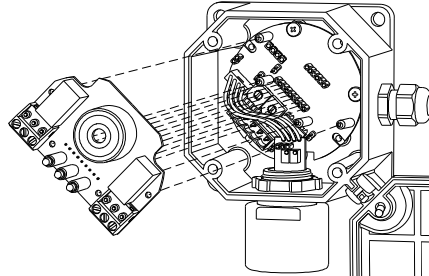
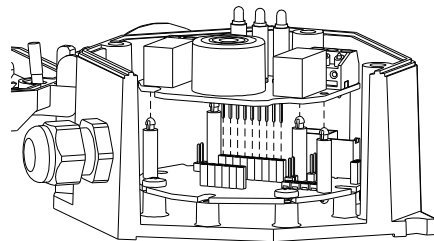

Fig. 4.
Fig. 5.
6. Connect the relay board on the transmitter as shown in Fig. 4, paying attention to match the four turrets, previously inserted on the transmitter, with the four holes on the relay board and to match the pins for the electrical wiring C1 (on the optional relay board) in C2 (on the base board of the transmitter), as shown in Fig. 5. Snap the small connectors of the 4 plastic spacers into the corresponding holes making a firm pressure on the relay board.